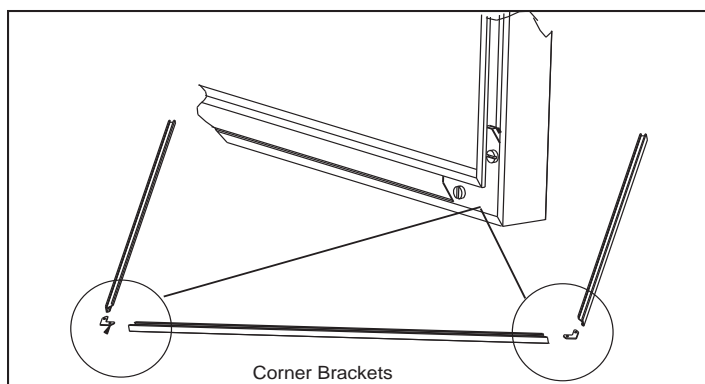

Figure 21.2
2. Using a 4 to 6 inches long Phillips head screw driver attach the side surrounds to the top surround using (2) #8 sheet metal screws on each side provided with the kit. **Figure 21.2.**
4. Using a standard flat screw driver tighten the corner brackets. **Figure 21.2.**
5. Slide the assembled trim set over the surround set. and then over the appliance matching the mounting tabs on the side pieces with the slots on the appliance. **Figure 21.2.**
6. Secure the magnet to the bracket and attach the magnet and bracket to each metal side piece at the bottom. The magnet is facing the front. **Figure 21.2.**